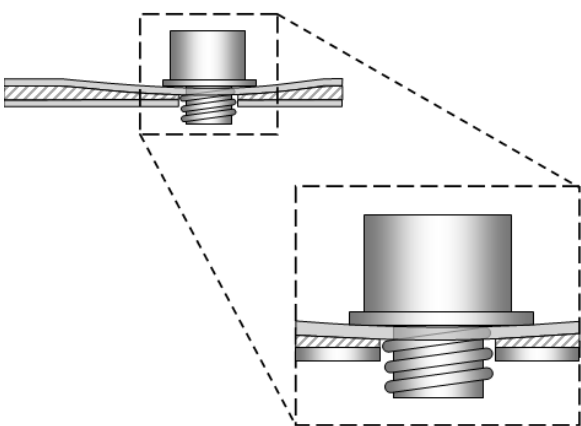
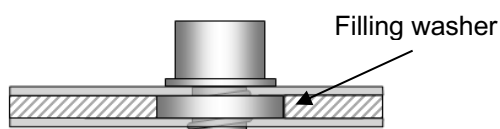
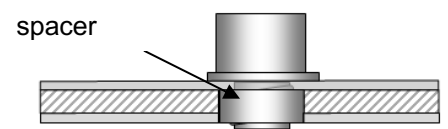

Fig. 12
Fig.13
Fig.14
In addition, if at the holes there is a double inner sheet metal with excessive space, in order to avoid the dangerous deformation of the sheet metal with the consequent visible bruise (Fig.12), it is recommended to proceed with one of the following two solutions for the fixing of the bolts (in case it is not possible another location to avoid double inner sheet metals or you cannot outdistance the internal plate by bending it): (A) filling washer (not supplied) applied inside and positioned between the two plates (fig. 13) or (B) spacer (not supplied) applied externally in a counterbore formed in the sheet metal. The counterbore should be of a diameter that doesn't exceed the maximum dimensions of the housing, so that the same may hide the counterbore hole (fig. 14).